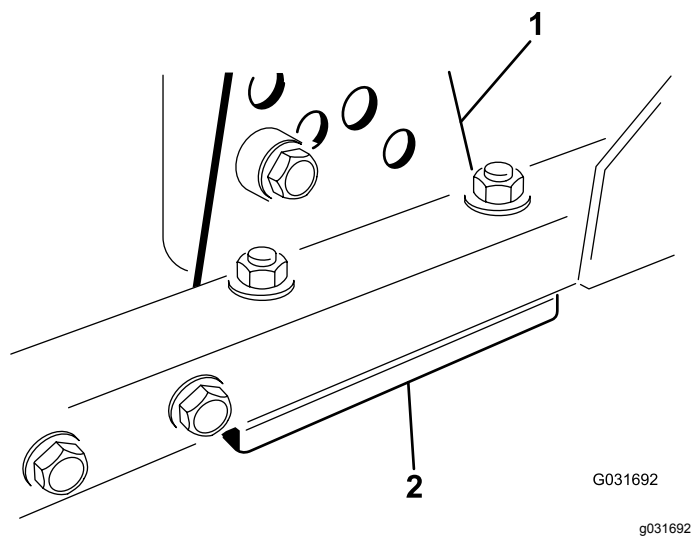

Figure 94
1. Remove the height-of-cut bracket (front, left, or right) from the deck frame (Figure 94).
2. Adjust 1.5 mm (0.060 inch) shims and/or 0.7 mm (0.030 inch) shim between the deck frame and bracket to achieve the desired height setting (Figure 94).